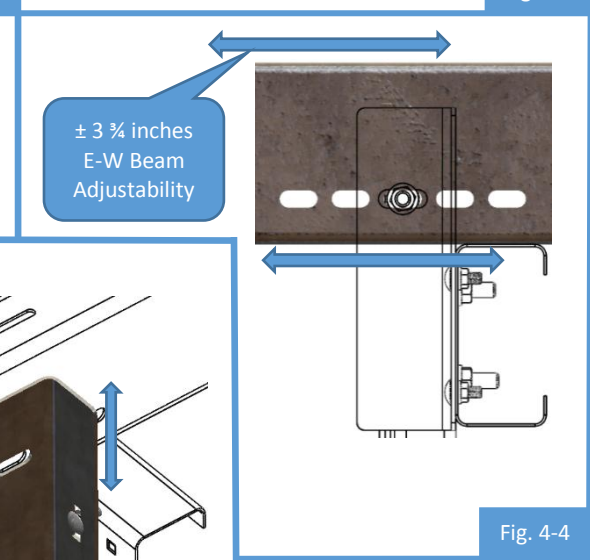

Fig. 4-4
- East – West Beam: ± 3.75 inches (95 mm) (Fig. 4-4)